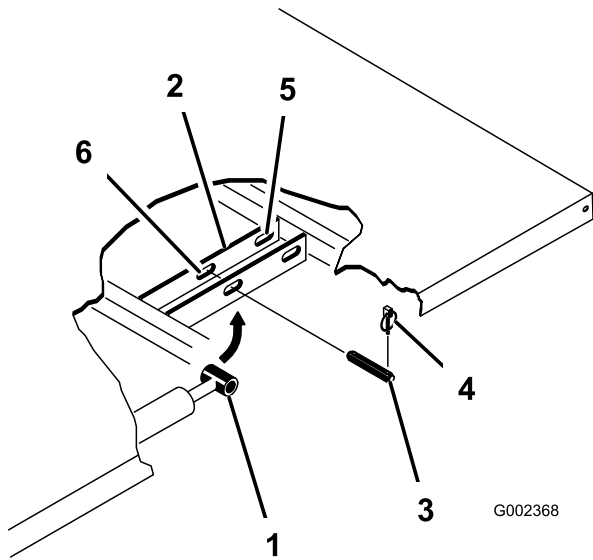

Figure 34
3. Remove the lynch pins from the outer ends of the cylinder-rod clevis pins (Figure 34).
4. Remove the clevis pins securing the cylinder-rod ends to the bed-mounting plates by pushing the pins toward the inside (Figure 34).
5. Remove the lynch pins and clevis pins securing the pivot brackets to the frame channels (Figure 34).